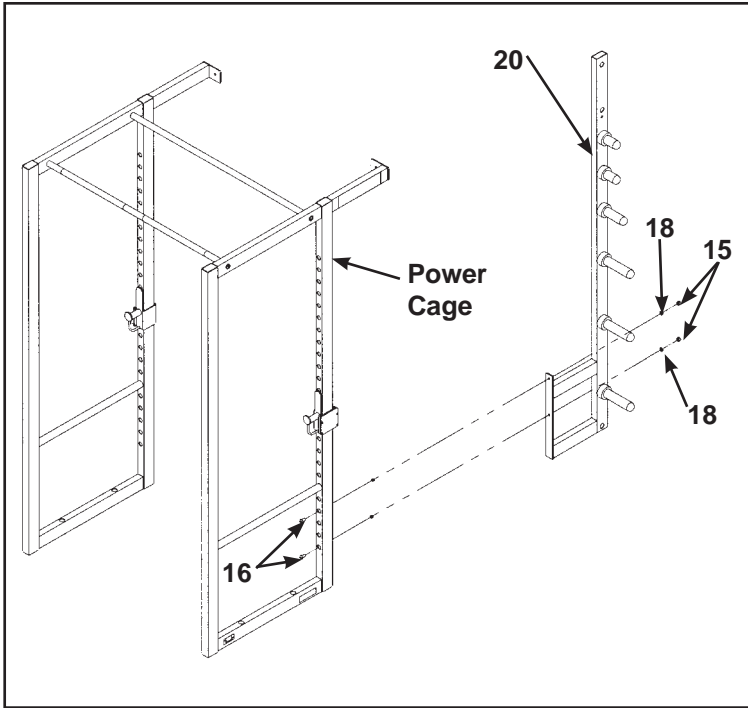

Figure 8
**7. Secure Power Cage to attachment (see steps 7A - 7K and Figures 8 - 11).**
- C. Attach right side attachment (#20) to Power Cage with two SHCS .50-13 x 1.00, two lockwashers .50 and two hex nuts .50-13. Do not tighten hardware at this time. See Figure 8.